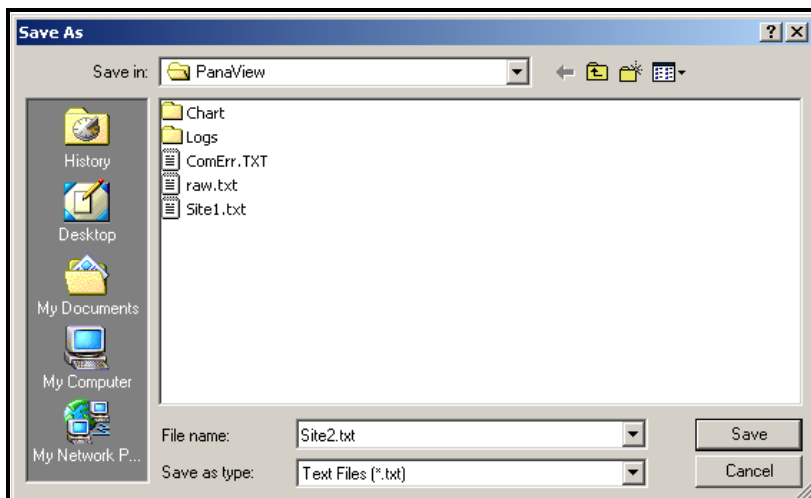

Figure D-13: *Save As Window*
To *save* the raw signal, click *Save*. A window opens similar to Figure D-13 below. Enter the desired name, and click *Save* to save the signal as a text file.
2. Click *Save Site to PC*. A window opens similar to Figure D-13 on page D-11.